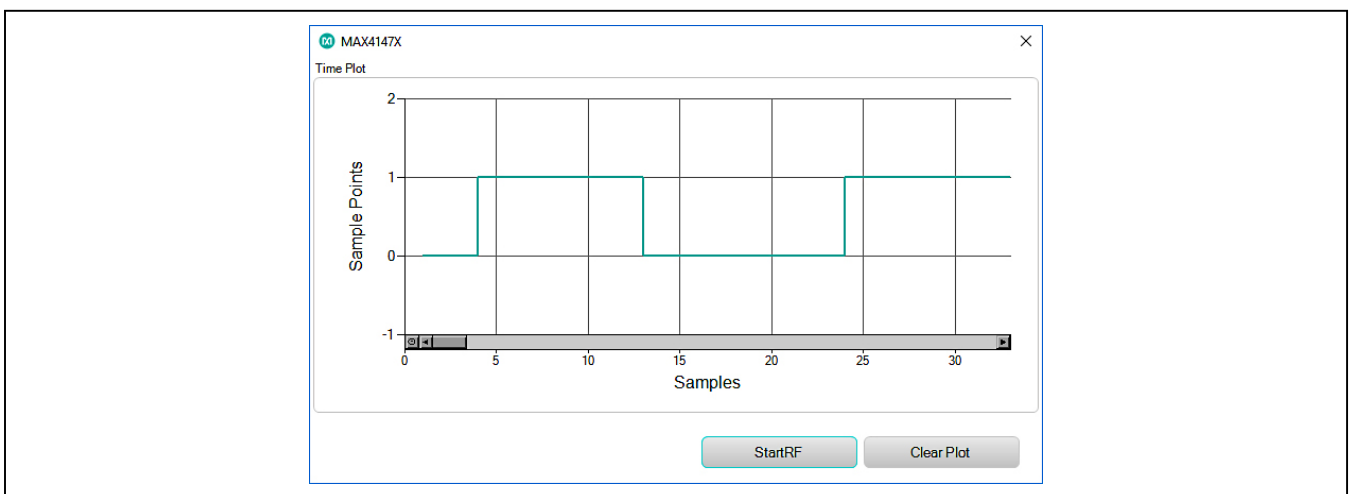

Figure 15. Time Plot of DATA
14) Connect the DATA (Yellow) test point to an oscilloscope to see the output data stream or through the **Time Plot** sampler (Figure 15). (See Time Plot in the Detailed Description of Software section.)